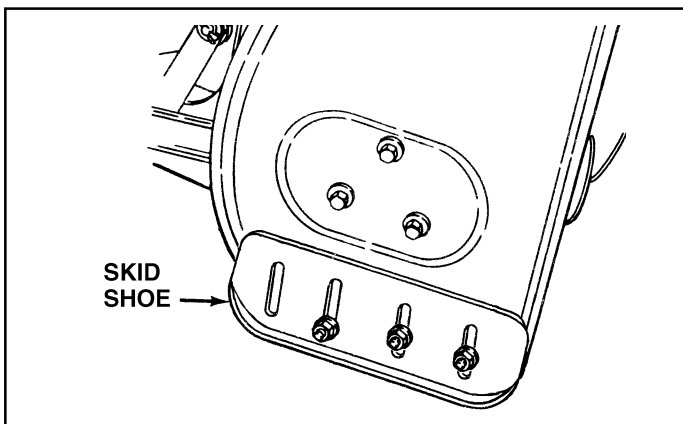

FIGURE 37
CHECK SCRAPER AND SHOES FOR WEAR (Refer to figures 37 and 38 on page 20.)
- Raise the snow thrower off the ground and place a block under each end of the scraper plate. Loosen the six hex nuts securing the skid shoes to the housing. Adjust the skid shoes up or down and retighten the nuts securely. Adjust both skid shoes to the same height to keep the housing and the scraper plate level. See figure 37.